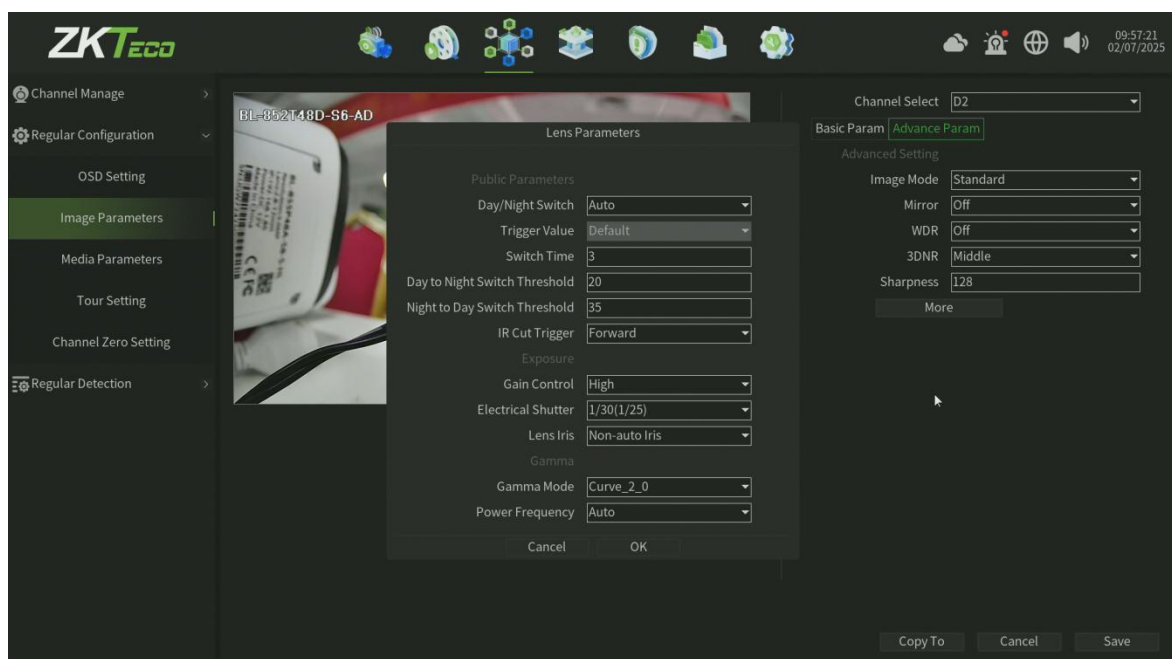

Figure 6.8 Image Advance Param Setting
2. **Advance Parm:** Adjust the Image Mode, Mirror, WDR, 3DNR, Sharpness, Public Parameters, Exposure, Gamma, as shown in figure 6.8.